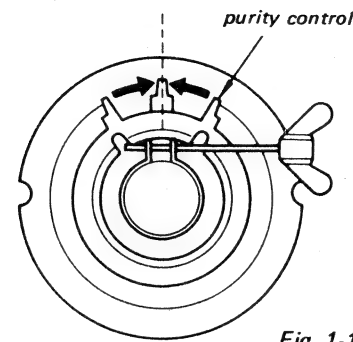
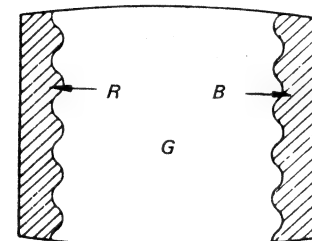

Fig. 1-1.
Fig. 1-2.
- (1) Turn on set power supply and receive and all-white signal.
- (2) Evenly degauss the entire screen.
- (3) Loosen the deflection yoke mounting screw, and set the purity control to the center as shown in Fig. 1-1.
- (4) Set BKG volume RV708 (G) to maximum and set RV712 (B) and RV704 (R) to minimum.
- (5) Move the deflection yoke back, and adjust the purity control so that (G) is in the center and (R) and (B) are at the sides, evenly. (Fig. 1-2)
- (6) Move the deflection yoke forward so that the entire screen is G.
- (7) Substitute (R), then (B) for (G) in step (4) and check landing.
- (8) Rotate (R), (G) and (B) once each and check landing.